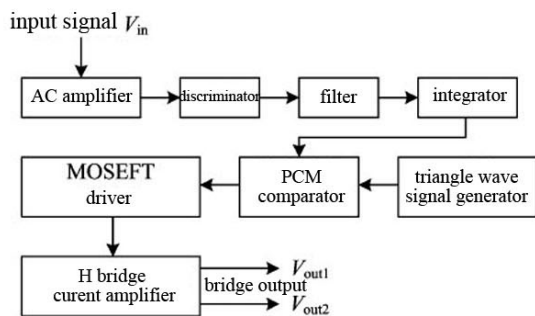

Fig. 2 Circuit block diagram
5. Operating principle (Fig. 2)